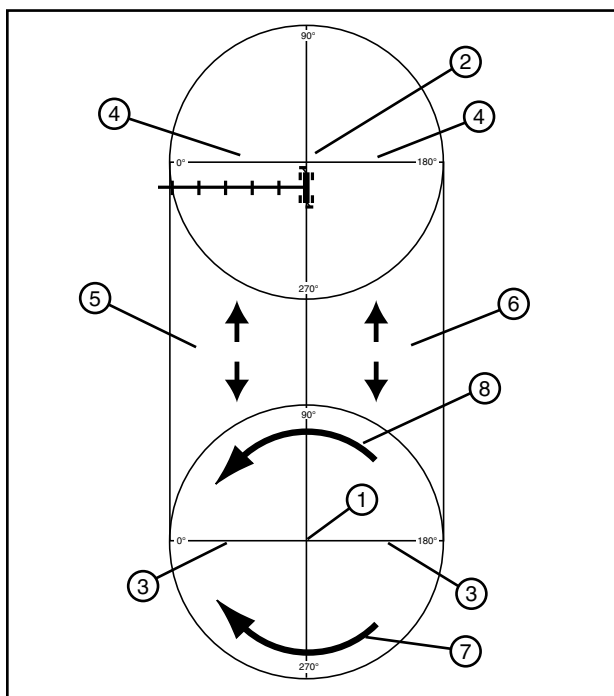

Figure 70-2 1. Pivot Zone A 5. Linear Zone A
•The Rainger Linear Swing Around should always be ran dry (without water) when pivoting or swinging the span around. See Figure 70-2.
5. There are typically 2 pivot zones. See Figure 70-2.